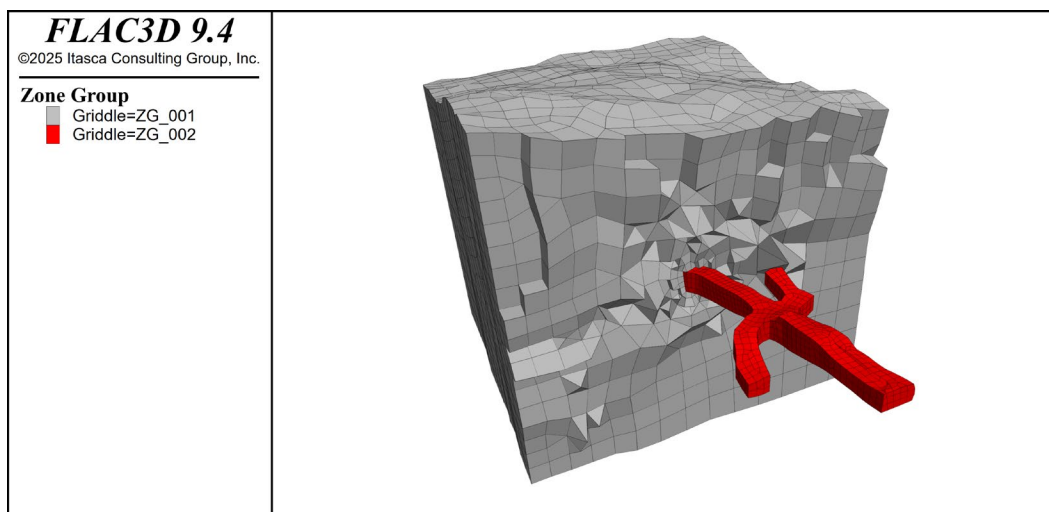

Figure 73: Final volume mesh for the model of the drift mine.
23. The surface meshes are ready for volume meshing. Create a *HexDominant* mesh using **GVol** with *MaxGradation = 1*, *TargetSize = 7*, and set the output format as desired (*FLAC3D* is used here). If a warning about the presence of naked edges appears, press **Yes** to continue with volume meshing (naked edges are present in the final model due to mesh extraction done earlier). Meshing may take some time due to the fine resolution of the topographic and drift meshes. The results of the volume mesh imported in *FLAC3D* are shown in Figure 73.